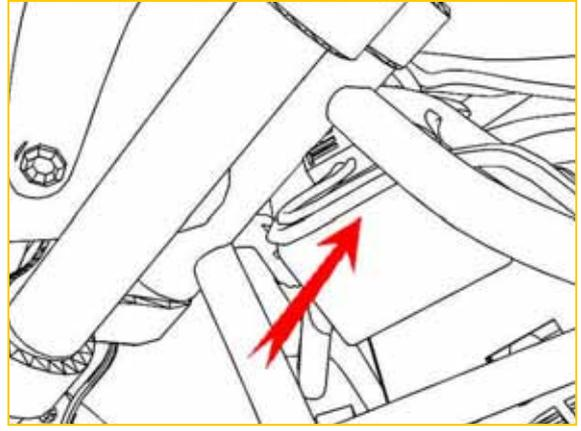

Fig 14
19. Pull any excess slack in the Zodiac Tfi harness back to the front. (fig 14)